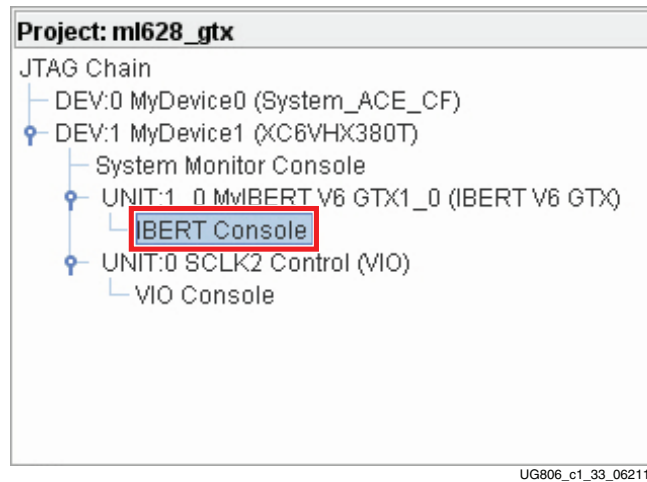

Figure 1-33: Project Panel - IBERT Console (GTX)
- In the project panel, double-click **IBERT Console** (Figure 1-33).